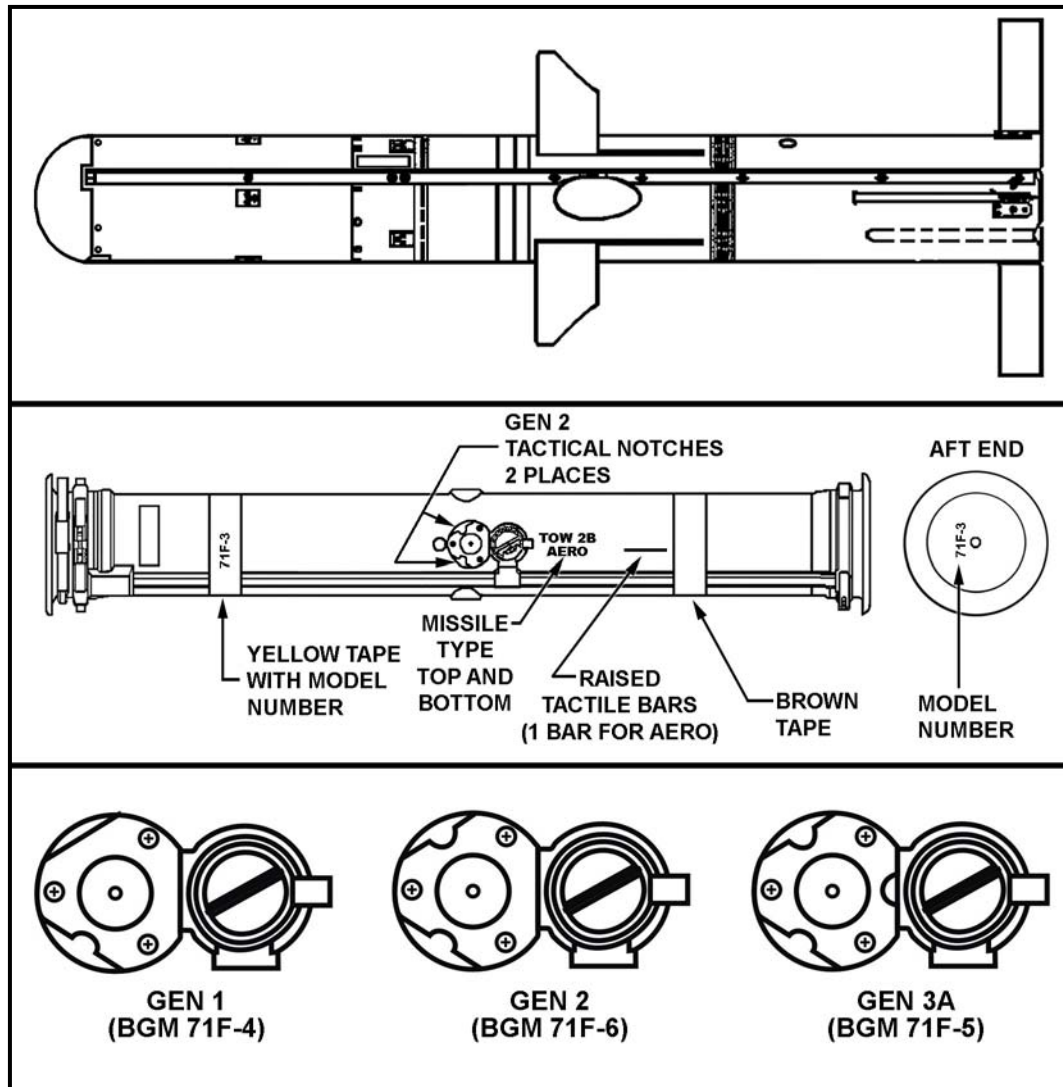

Figure 1-23. TOW 2B AERO missile with identification and GEN tactile identification.
g. **TOW 2B AERO with GEN 1 (BGM-71F-4), 2 (BGM-71F-6), and 3A (BGM-71F-5)** (Figure 1-23). This is another version of the TOW 2B missile that has a range of 4,000 meters. It can defeat a target's active protection system, thereby allowing the TOW 2B missile to successfully engage any armored vehicle up to 4,000 meters.
(1) To identify the generation (GEN) of the missile, tactile notches are contained on the plate of the holdback pin. GEN 1 type missile (BGM-71F-4) has a single notch; GEN 2 type missile (BGM-71F-6) has two notches; and GEN 3A type missile (BGM-71F-5) has three notches (one at each of the three flat edges of the plate).
(2) The target detection and warhead description are the same as for the TOW 2B missile. This missile is not available with a practice warhead.